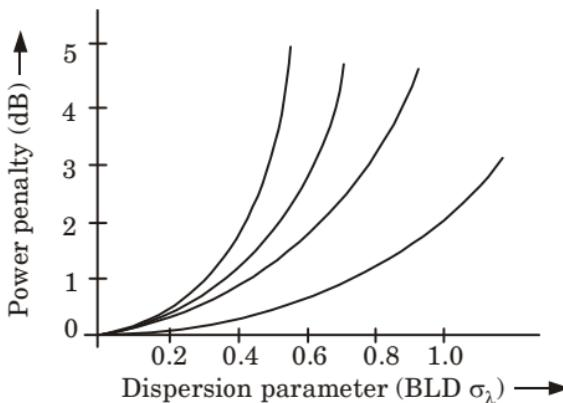

Fig. 5.13.4. Chirp induced power penalty.
3. Fig. 5.13.4 shows power penalty as a function of dispersion parameter BLD σ_λ for several values of bit period.